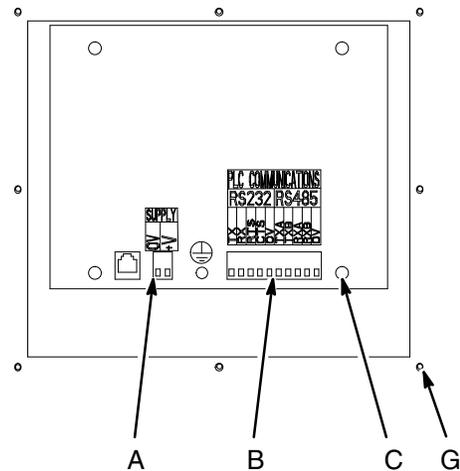

Fig. 11.5
2. Disconnect the power (A) and communications (B) connectors from the back of the User Interface. See Fig. 11.5.
3. Remove the 8 screws (G), and remove the User Interface.
4. Install the new User Interface and secure it with the 8 screws (G).
5. Reconnect the power (A) and communications (B) connectors.